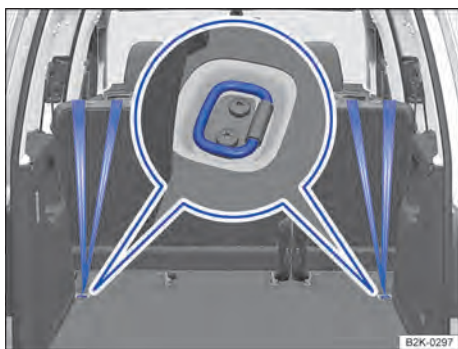
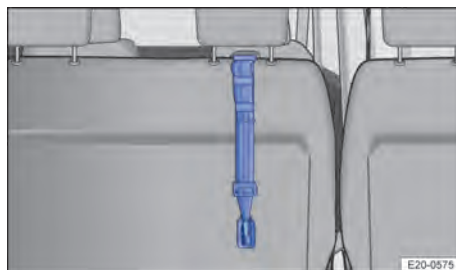

Fig. 42 Outer seats in the second row: top tether straps attached in the bolted fastening rings at the sides of the load compartment.
Fig. 43 Middle seat in the second seat row: top tether strap attached to top tether anchor point (depending on market and equipment).
7. Hook the top tether strap of the child seat into the fastening rings → Fig. 42 or top tether anchor point → Fig. 43.